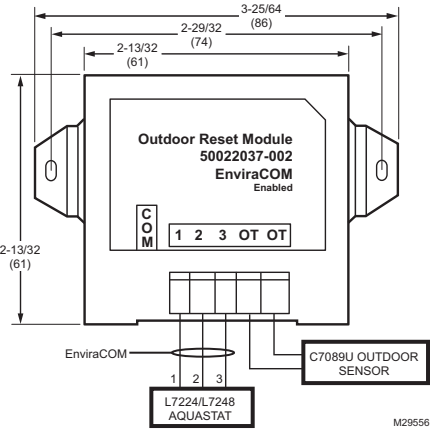

Fig. 1. 50022037-002 Outdoor Reset Module wiring diagram.
- 2. Wire the 1,2, and 3 terminals on the Outdoor Reset Module to the 1,2, and 3 terminals on the EnviraCOM™ enabled thermostat (if available), Aquastat, or anywhere on the bus where access is available and convenient. See Fig. 1.
- 3. Wire the 2 wires from the C7089U temperature sensor See Fig. 1 into the OT terminals on the Outdoor Reset Module. One wire inserted into 1 OT terminal, the other wire inserted into the other.